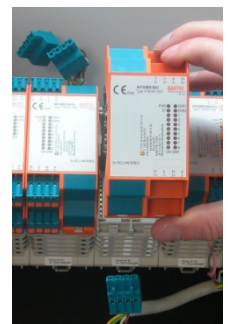

Figure 5
- (3) Raise the electronic unit and take it out of the lower section of the enclosure (fig. 5).
The electronic unit may be touched only on the upper section of the enclosure (see fig. 5)! (ESD danger)